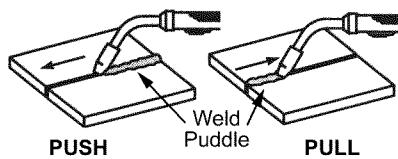

Figure 11. Travel Direction
1. TRAVEL DIRECTION is the direction the torch is moved along the weld joint in relation to the weld puddle. The torch is either PUSHED (see Figure 11) into the weld puddle or PULLED away from the weld puddle.